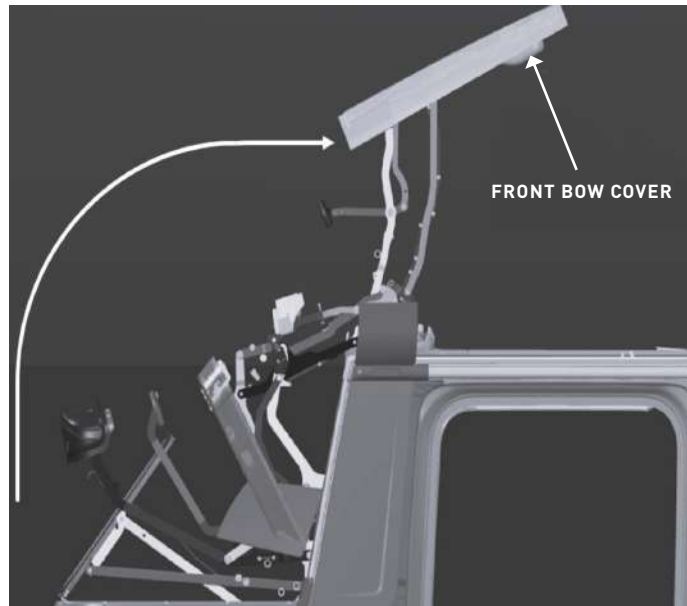

Fig. 11
- After unlocking both sides, manually move the soft top manually into a stable intermediate position (Fig. 11).